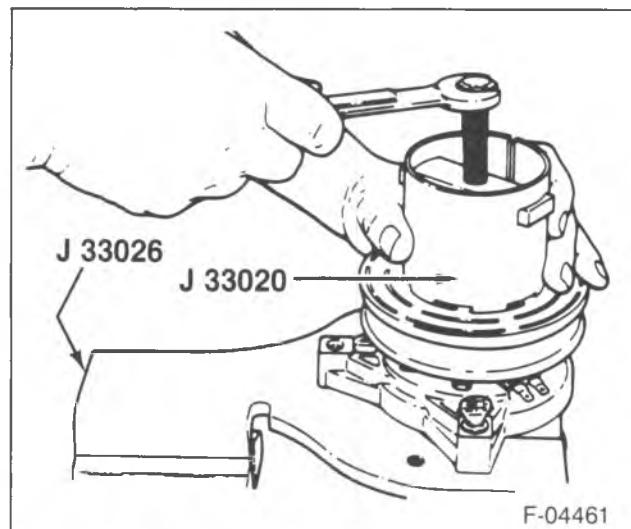

Figure 11—Installing J-33020 in the Pulley Rotor Slots
- Install J 33020 tangs into the inner circle of slots in the pulley (5) contact surface. Rotate J 33020 clockwise so the tangs will lock into the segments between the slots (figure 11).
- Hold J 33020 in place and tighten the puller screw against J 33023-A puller pilot to remove the pulley (5) (figures 11 and 12).